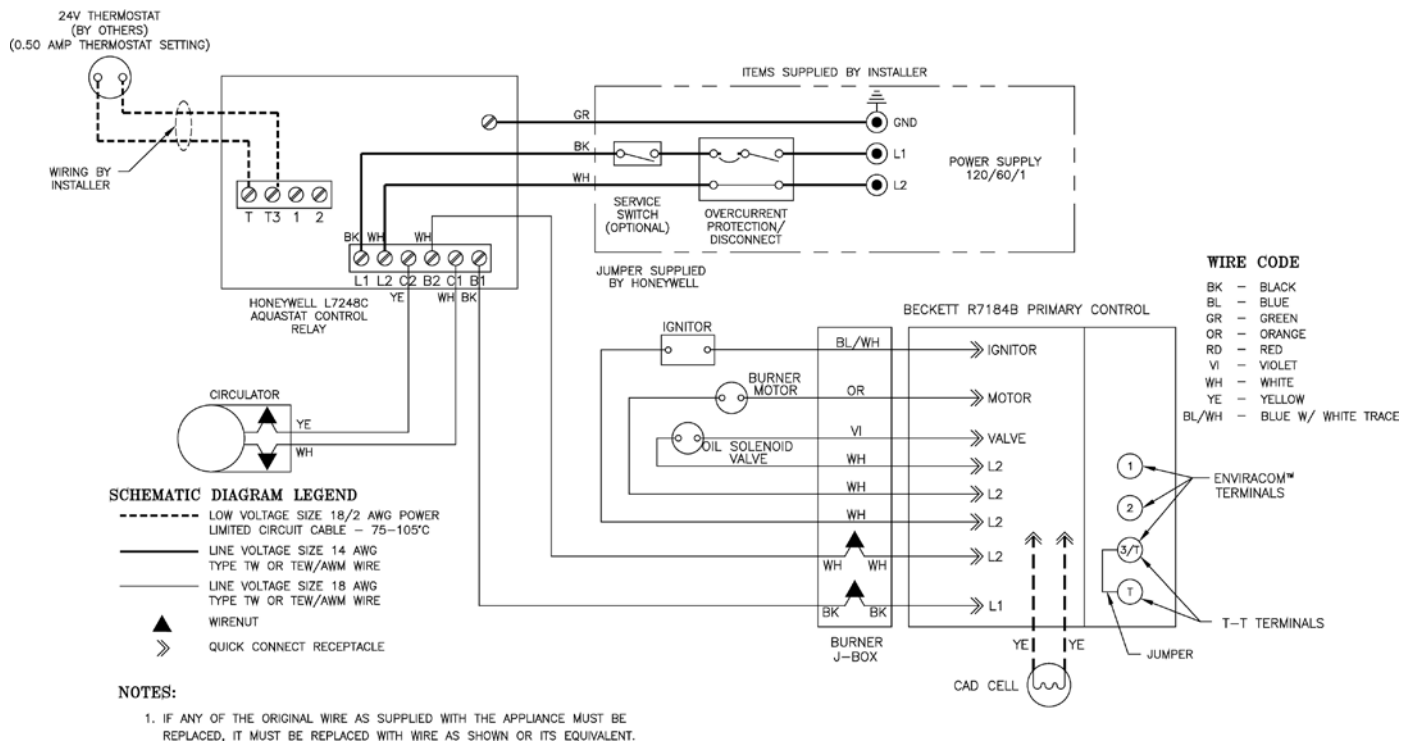
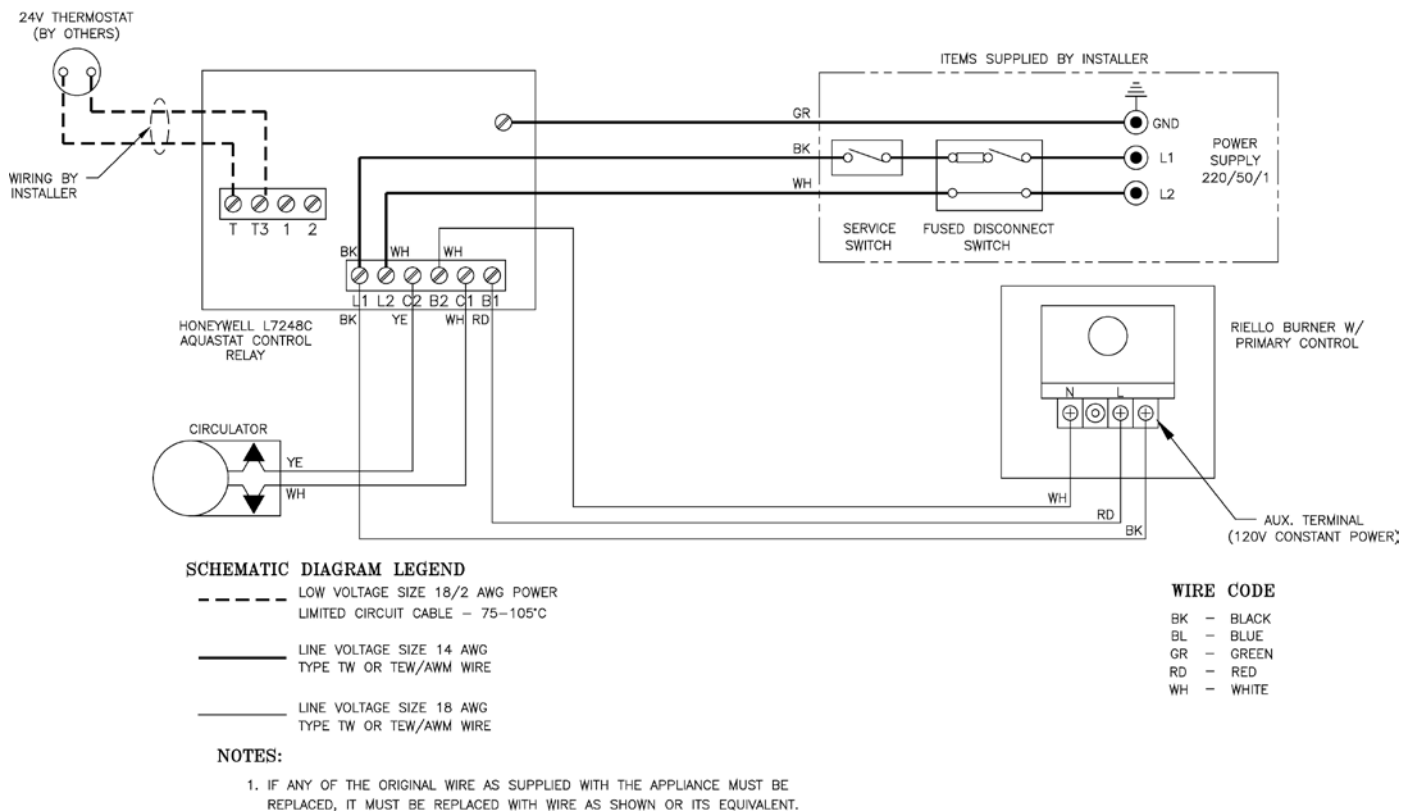

Figure 15: AP-U Boiler Wiring Less Tankless, Single Circulator w/Beckett Burner
Figure 15A: AP-U Boiler Wiring Less Tankless, Single Circulator w/Riello Burner
3. Wire the burner per instructions, provided with the burner, and, Figure 15, 15A, 16 or 16A, as applicable.
3. Wiring should conform to Figure 15 and/or 16.
3. Use armored cable (BX) over all exposed line voltage wiring.
5. Single Zone System – Refer to Figure 15 or 16 for the electrical diagram for this type of system. Connect the system circulator wire leads to the proper locations on the Aquastat control, L7224A/L7248A. See Figure 15A or 16A. Connect the thermostat to the ‘T-T’ terminals on the L7224A/L7248A control. Set thermostat heat anticipator settings to 0.60 amps.